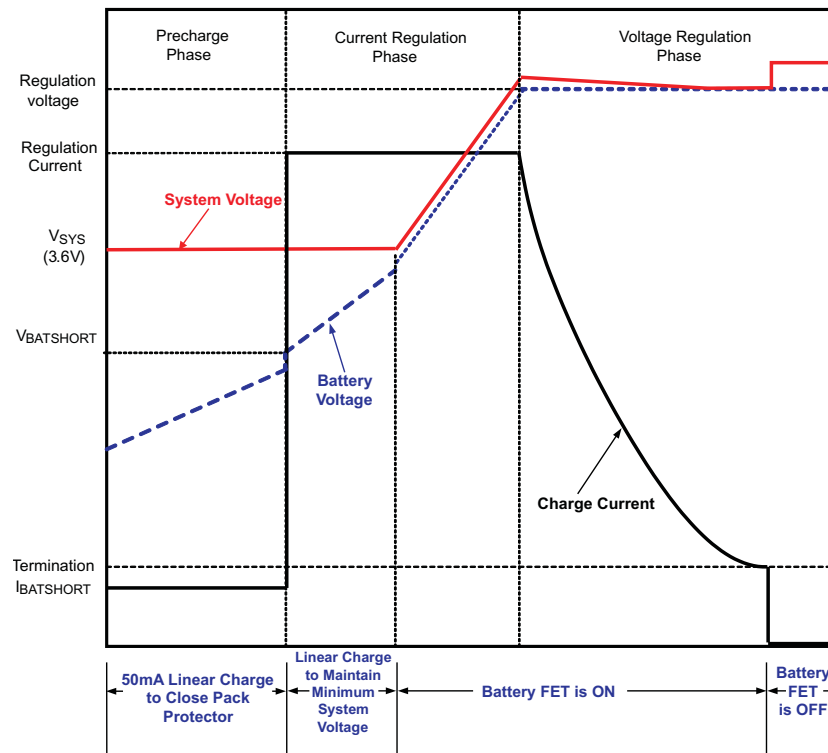

Figure 20. Typical Charging Profile of bq24165/6/7
Charging is done through the internal battery MOSFET. When the battery voltage is above 3.5V, the system output (SYS) is connected to the battery to maximize the charging efficiency. There are 5 loops that influence the charge current; constant current loop (CC), constant voltage loop (CV), thermal regulation loop, minimum system voltage loop (MINSYS) and input voltage dynamic power management loop (V_{IN} -DPM). During the charging process, all five loops are enabled and the dominate one takes control. The bq24165/6/7 supports a precision Li-Ion or Li-Polymer charging system for single-cell applications. The minimum system output feature regulates the system voltage to a minimum of $V_{SYS(REG)}$, so that startup is enabled even for a missing or deeply discharged battery. Figure 20 shows a typical charge profile including the minimum system output voltage feature.